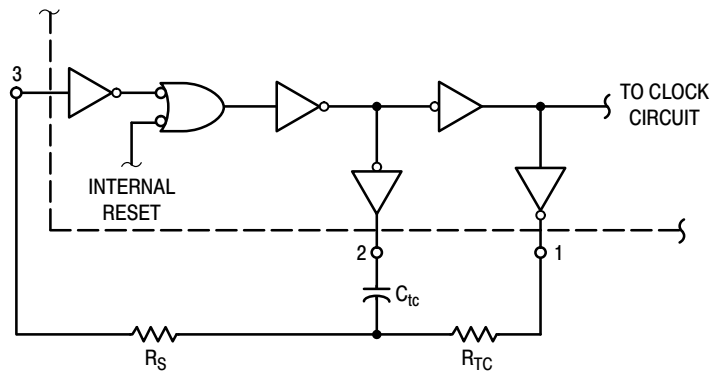

Figure 3. Oscillator Circuit Using RC Configuration
5. When using the on chip oscillator the total supply current (in µAdc) becomes: I_T = I_D + 2 C_{TC} V_{DD} f x 10⁻³ where I_D is in µA, C_{TC} is in pF, V_{DD} in Volts DC, and f in kHz. (see Fig. 3) Dissipation during power-on with automatic reset enabled is typically 50 µA @ V_{DD} = 10 Vdc.
The RC oscillator as shown in Figure 3 will oscillate with a frequency determined by the external RC network i.e.,